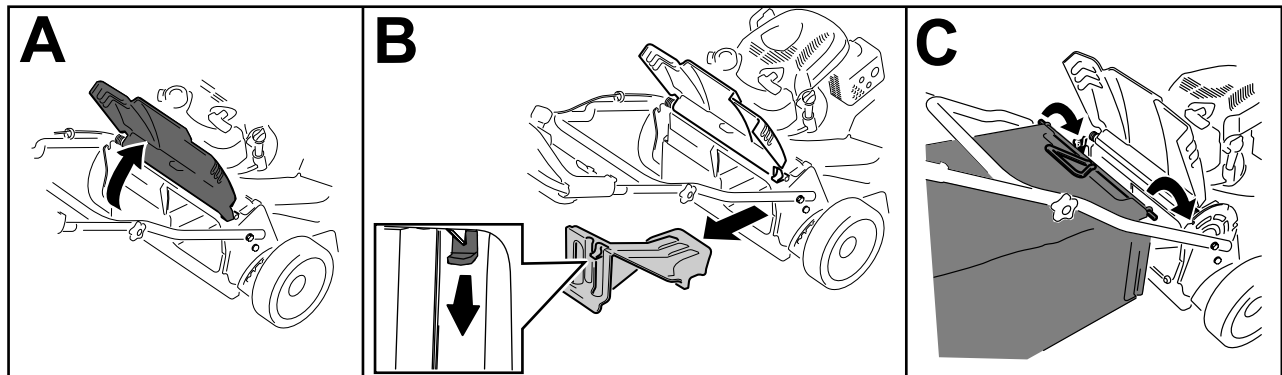

Figure 21
1. Raise and hold up the rear door (A of Figure 21).
2. Remove the rear-discharge plug by pulling down on the latch with your thumb and pulling the plug out from the machine (B of Figure 21).
3. Install the bag rod into the notches at the base of the handle and rock the bag back and forth to ensure that the rod is seated at the bottom of both notches (C of Figure 21).